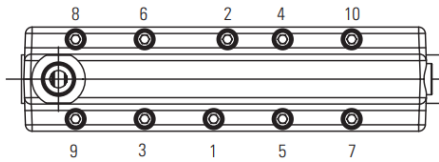

Figure 30
1. Apply 1 drop of Loctite 290 in all 10 screw holes in the selector plate while ensuring that no air is trapped underneath the droplet. Install the gasket onto the selector plate. Place the spool housing assembly onto the gasket. Install and torque each of the 10 screws starting in the middle working outwards using the sequence in Figure 30. Torque each screw to 70 +/- 8 lbf-in.